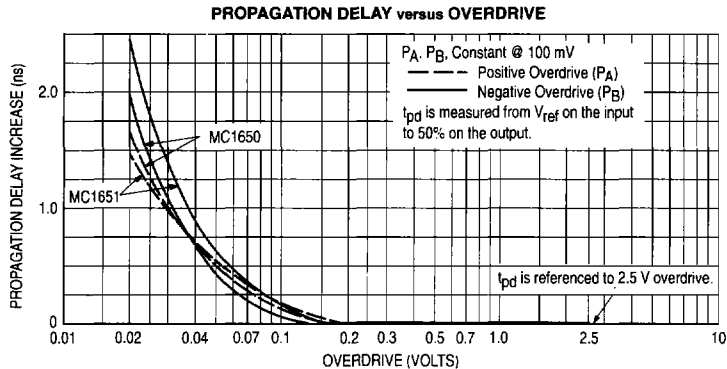

FIGURE 5 — LOGIC THRESHOLD TESTS (WAVEFORM SEQUENCE DIAGRAM)
2. These tests are done in order indicated. See Figure 5.
- These tests are done in order indicated. See Figure 5.